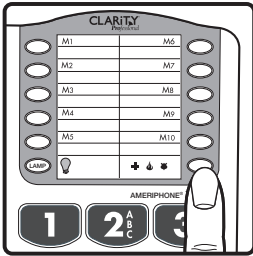

Figure 9
Phone numbers can be stored into the phones memory to enable one button dialing. The phone directory allows space for eleven (11) different phone numbers. One space is marked to be used to store an emergency number. See Figure 9.